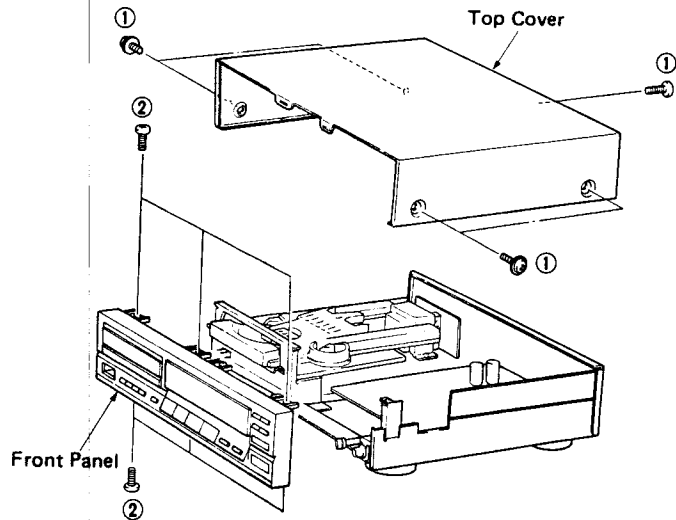

Fig. 1
- Remove 5 screws ( ① ) in Fig. 1, and slide the Top Cover to the back side.
- Remove 6 screws ( ② ) in Fig. 1, and pull the Front Panel forward.